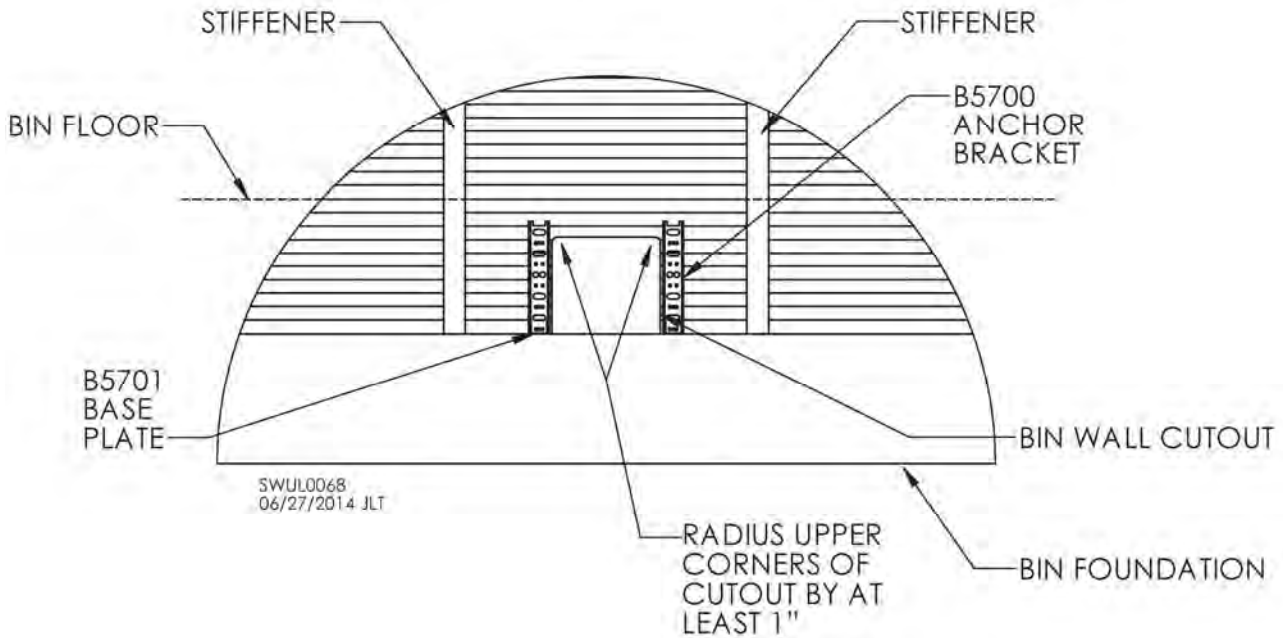

Fig. 13 – 20" cutout reinforced by 22" anchor brackets (B5700) and base plates (B5701)
Bin sidewall should be reinforced around any cutout wider than 13" (e.g., conveyors). Use 22" anchor brackets or similar supports for cutouts up to 30" wide. See Fig. 13. Attach a base plate (B5701) to each 22" anchor bracket using two (2) 3/8 x 1" bolts and two (2) 3/8" flange nuts. Attach 22" anchor brackets to sidewall using 3/8" bolts. **IMPORTANT:** See applicable unload system manual for sidewall cutout reinforcement instructions.